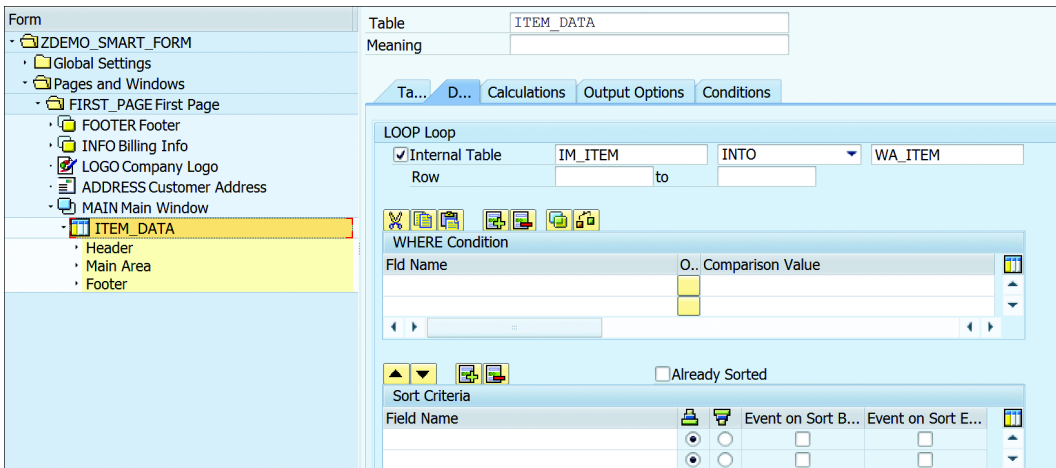

Figure 18.45 Table Element
The table element consists of three areas (see Figure 18.45):
The table element consists of different tabs. In the TABLE tab, you define the line type by clicking the DETAILS button. In the DATA tab, you can loop the internal table. The DATA tab also provides support to mention a WHERE condition and sort criteria (see Figure 18.45). You can maintain borders and shading for the tables in the OUTPUT OPTIONS tab. You can perform certain calculations, such as totals, mean values, and count, under the CALCULATIONS tab.
4. Print the internal table data in the main area. In order to print data from the internal table, loop the internal table into a work area under the DATA tab of the table node (see Figure 18.45). Within the text element of the cells in the main area, list the work area fields that should be printed. For this example, in the first cell of the main area, print the `WA_ITEM-POSNR` field; in the second cell of the main area, print the `WA_ITEM-ARKTX` field; and in the third cell of the main area, print the `WA_ITEM-NETWR` field.